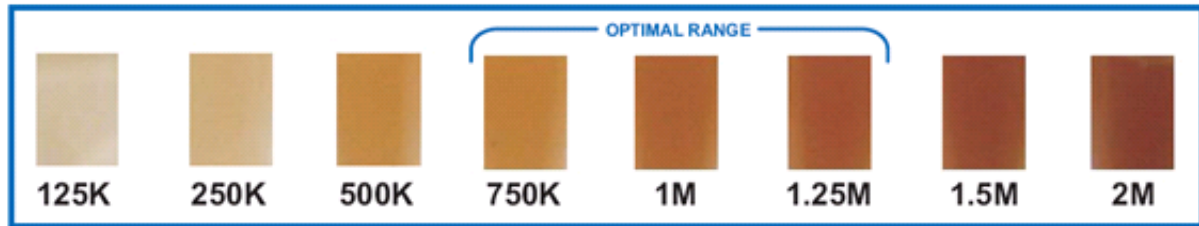
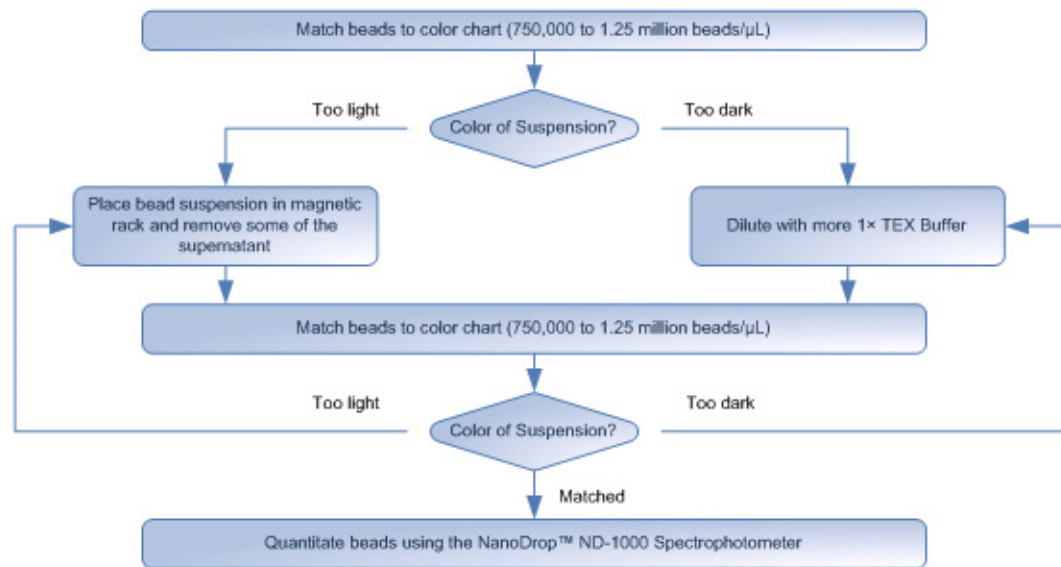

Figure 19 The SOLiD™ Bead Concentration Chart. For best results, use the SOLiD™ Bead Concentration Chart (PN 4415131), supplied separately.
Figure 20 The SOLiD™ Bead Concentration Chart workflow.
3. Adjust the volume of beads so that the color of the bead solution matches a color in the optimal range (750,000 beads/ μL to 1.25 million beads/ μL ; see Figure 19 on page 32 and Figure 20 on page 32).